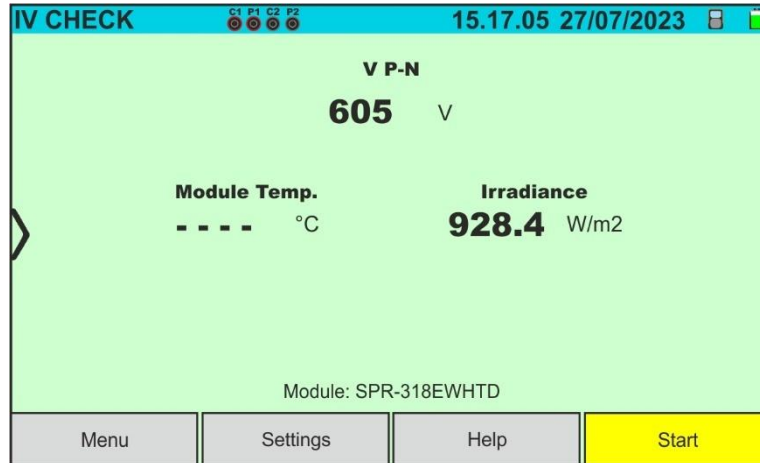

Fig. 64: Initial IVCK test screen without remote unit on Monofacial modules
4. In the case of **Monofacial** modules, the Fig. 64 screen is present on the display. The following parameters are shown: